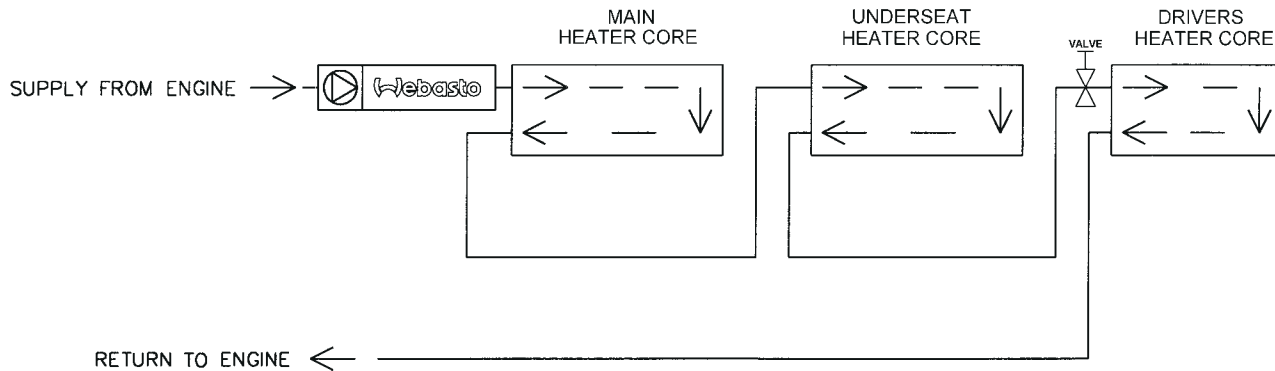

Fig. 401: Series Plumbing Circuit (Shown with heater installed)
A: Heater Cores arranged in Series (fig. 401)
1. Identify the type of system you are working with to determine the appropriate type of installation as shown in figures 401, 402 or 403.
2. Connect heater into the system according to the examples shown in figures 401, 402 or 403.